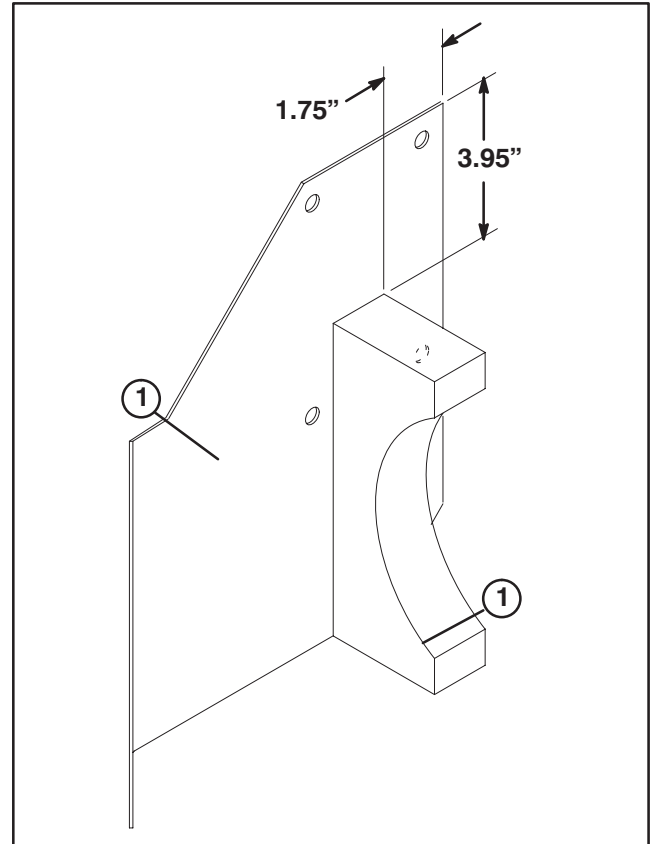

Figure 17
58. Using dimensions shown in figure 17, locate and mark generator baffle mounting position on generator shield.